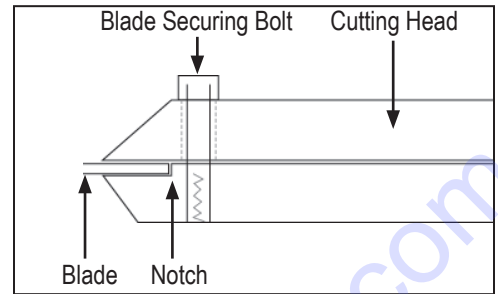

FIG. 7
2. Insert blade into the cutting head to back of notch (Figure 7); tighten firmly.